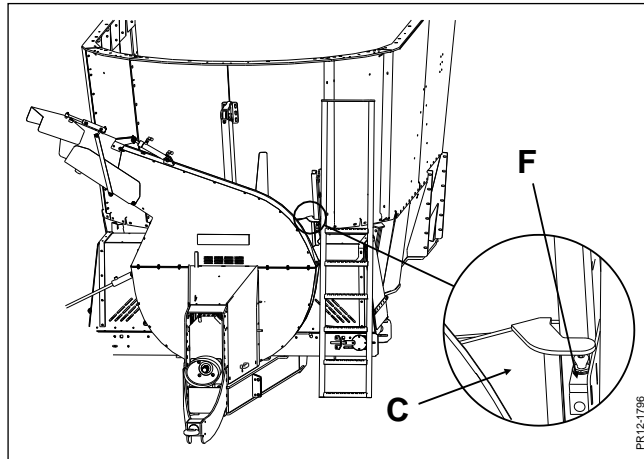

Fig. 2-5
Fig. 2-5 When (C) has been moved down the contact (F) is established, which enables the straw feeding rotor to rotate. When (C) is moved up and (F) is no longer in contact, the straw feeding rotor can not rotate.